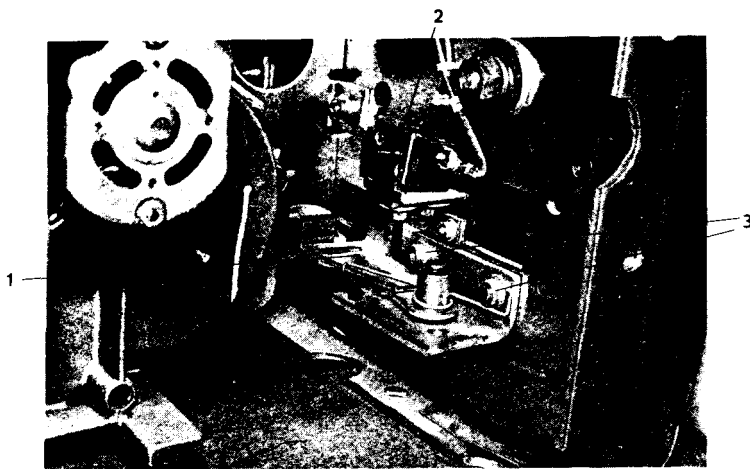

Fig. A17 Spring Discharge Interlock — Shown with close coil and close shaft removed.
With the breaker open and the closing spring discharged, remove the two bolts, (3) Fig. A17, which mount the spring discharge interlock to the right side frame of the breaker. Remove the spring discharge interlock.
On reassembly check the adjustment of the close latch monitor switch, (2) Fig. A17, as described in paragraph 5.9.